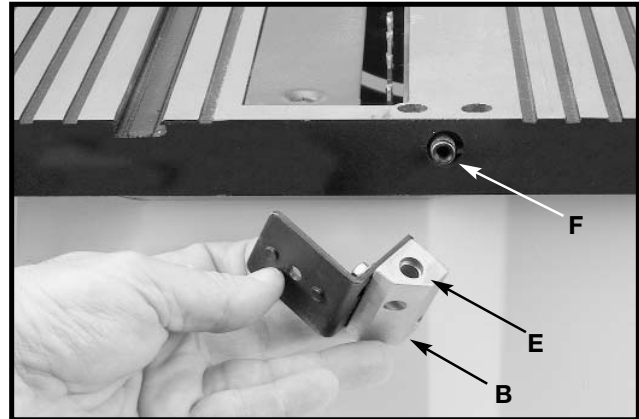

Fig. 11
4. Position the recessed end (E) Fig. 11 of the splitter bracket (B) against the end of the pivot rod (F), and fasten using the assembly in **STEP 3**.